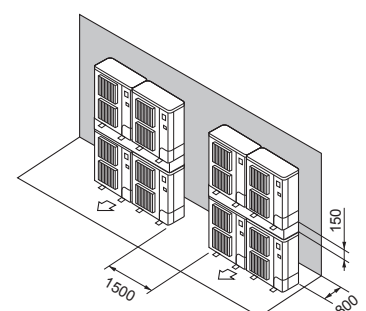

Fig. 2-15
- ⑦ Stacked unit arrangement (Fig. 2-15)